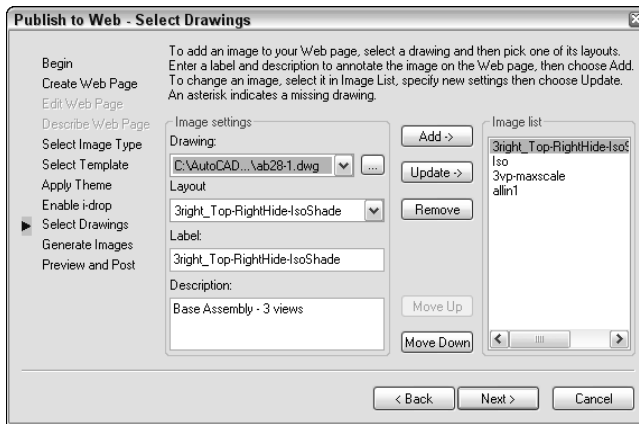

Figure 28-14: On the Select Drawings screen, add each drawing you want to include on the Web page and specify a layout, label, and description for each.
7. On the Select Drawings screen, shown in Figure 28-14, choose the drawings that you want to publish. If the drawing is open, you can select it from the Drawing drop-down list. Select each drawing, choose a layout (or model) from the Layout drop-down list, type a label, and type a description to appear on the Web page. Then click Add. (If the drawing is not open, click the ellipsis button, navigate to the drawing, and click Open. Then click Add.) Click Next.